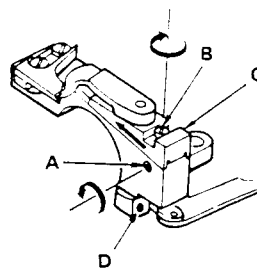

Fig. 38
- a. Loosen screw **A** and **D** shown in Fig. 38.
- b. Turn eccentric stud **B** clockwise to move the wedge shaped slide block **C** in the direction shown in Fig. 38.